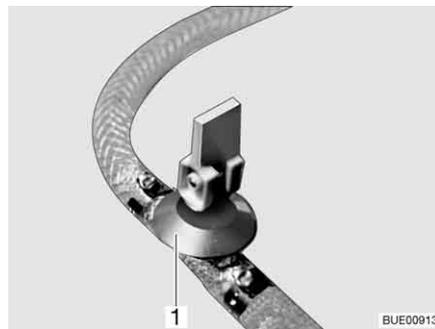
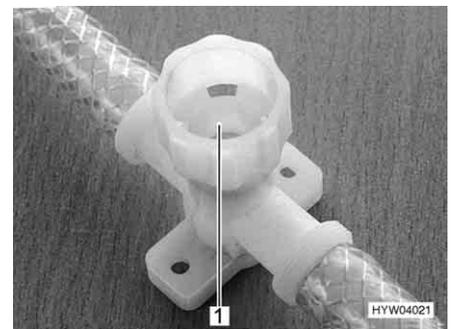

Fig. 158 Drain cock (with rocking lever)
Fig. 159 Drain cock (with twist cap)
- Open all drain cocks. To do this, position the drain cock's rocking lever (Fig. 158,1) vertically or turn the drain cock's cap (Fig. 159,1) in an anti-clockwise direction.